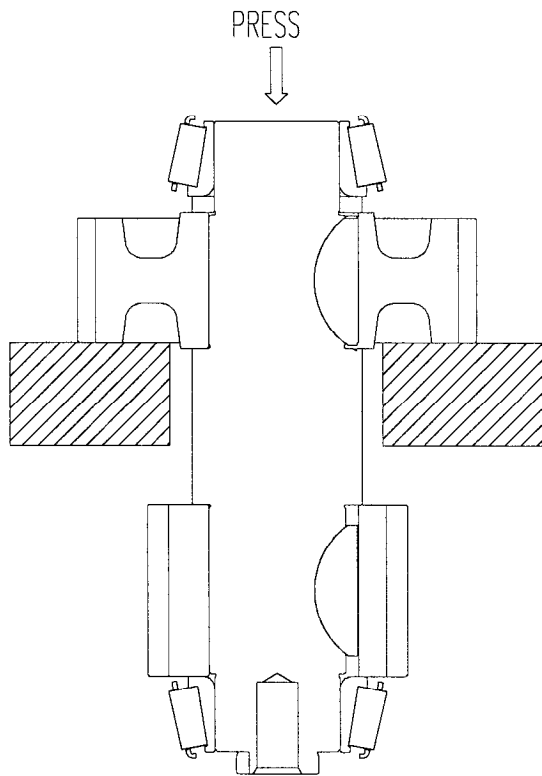

Fig. 33
1. To remove the rear bearing cone, spacer and the intermediate direct drive gear, support the direct drive gear. Press the shaft through the bearing, spacer and gear. Remove the shaft key only if necessary. See Fig. 33.